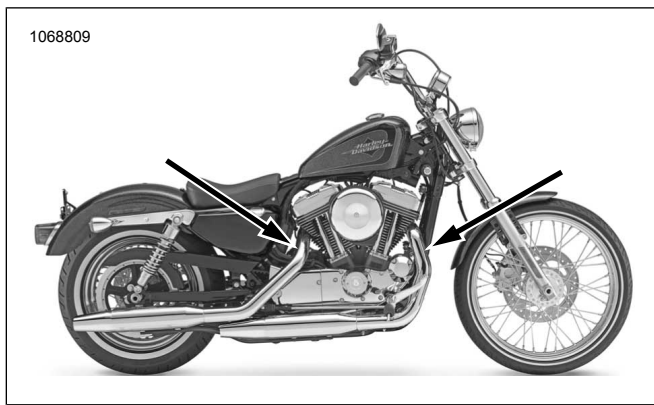
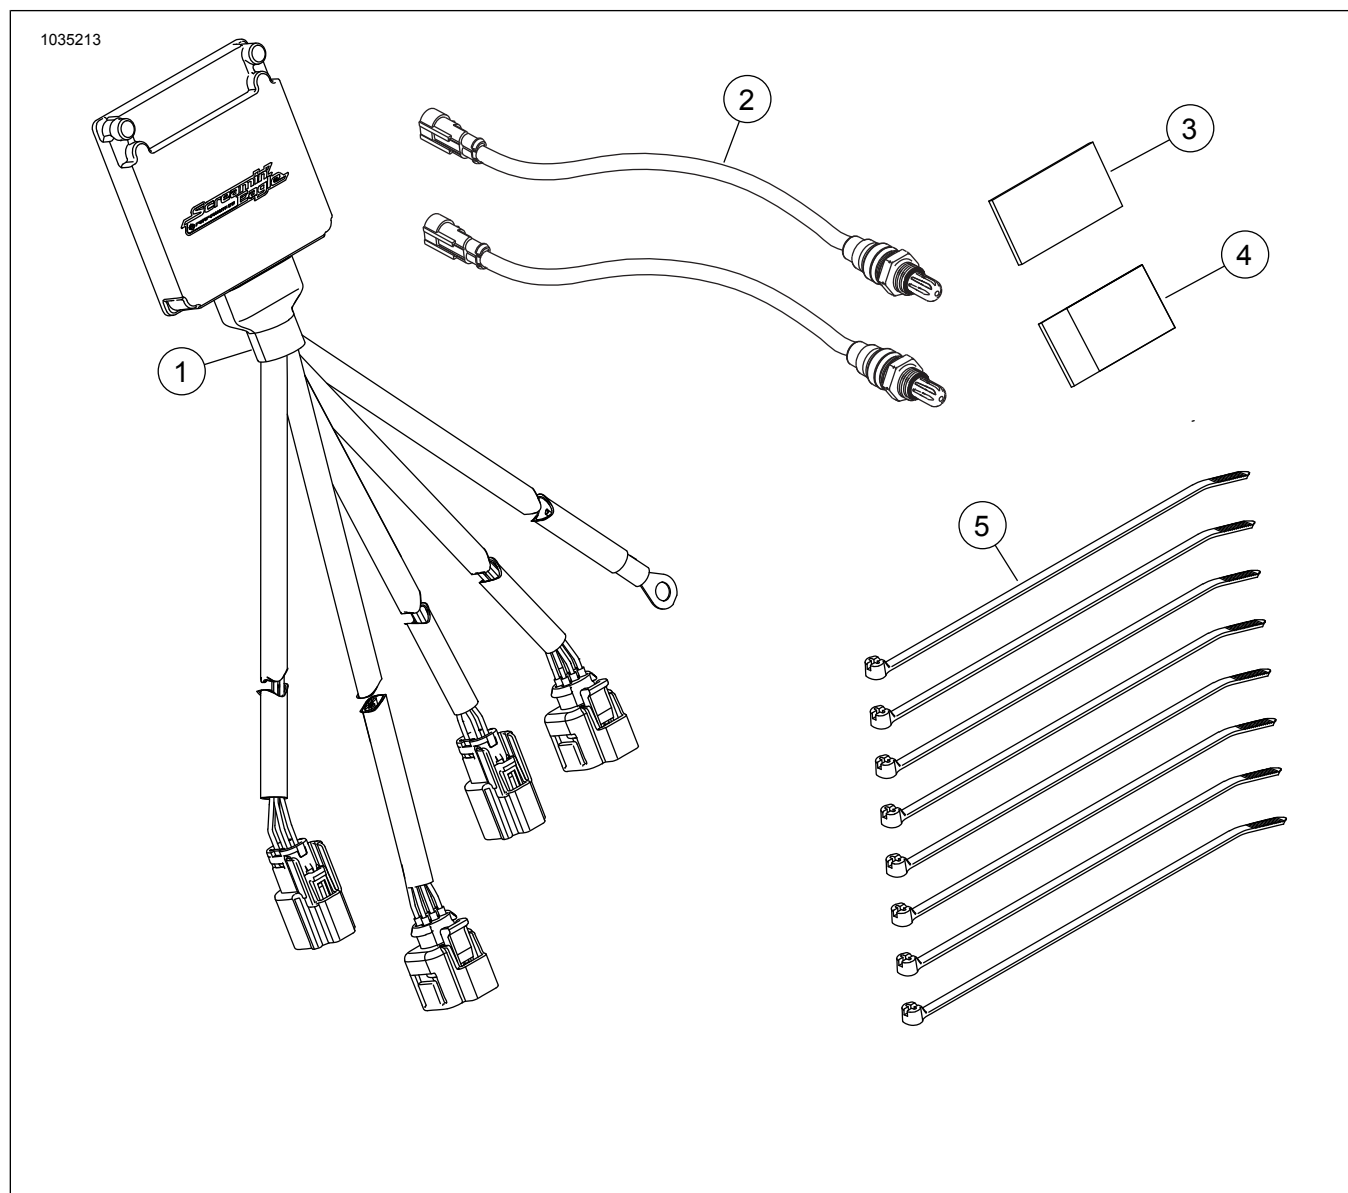

Figure 48. Oxygen Sensor Locations (Inboard Side of Exhaust Pipes)
Figure 52. Kit Contents: Smart Tune Pro Automatic Tuning Module (ATM) Kit
See Figure 48, Figure 52 and Table 5. Install wide band oxygen sensors (2). Using Oxygen Sensor Socket (Part No. HD-48262-A) tighten to: